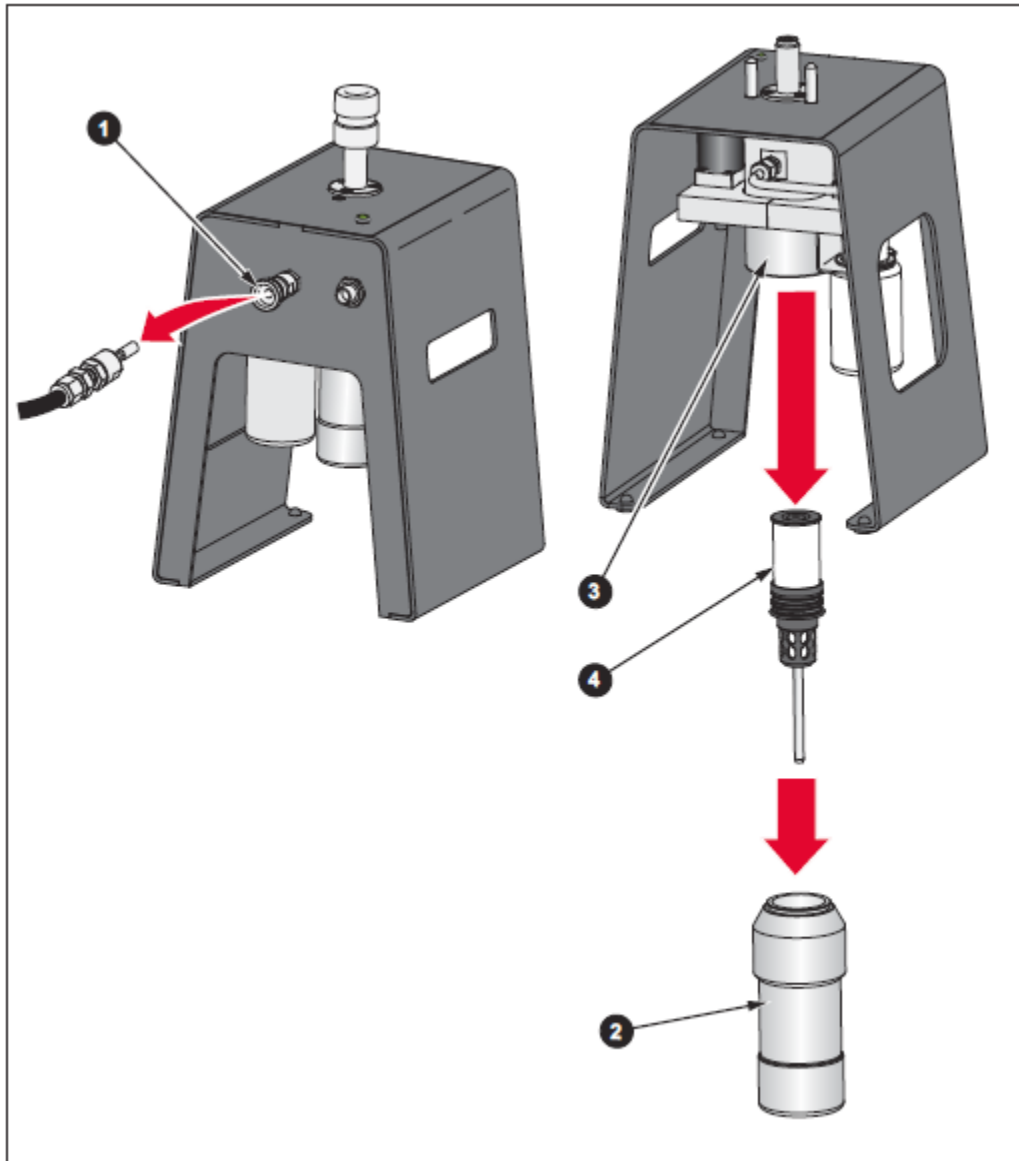

Figure 48. CPS Cleaning and Inspection
To clean and inspect the CPS filter assembly (see Figure 48):
- A. Carefully insert screen (10) into screen retainer (5). Do not apply vacuum grease.
- B. Insert screen retainer o-ring into screen retainer (5) to groove just below threads. Do not apply vacuum grease to this o-ring. Tuck o-ring between screen and retainer.
- C. Drop purge tube (9) into screen retainer (5).
- D. Guide filter manifold (6) with o-rings into screen retainer (5). Take care to not bend edges of screen.
10. Inspect to make sure all O-rings are in the correct place prior to re-assembly (see Figures 48, 49 and 50).
- The filter retainer (8) has an O-ring on each end.
- The filter manifold (6) has 3 O-rings.
- The purge tube (9) has one O-ring and a c-clip.
- The screen retainer (5) has one O-ring.
- The lower housing has (2) one O-ring.